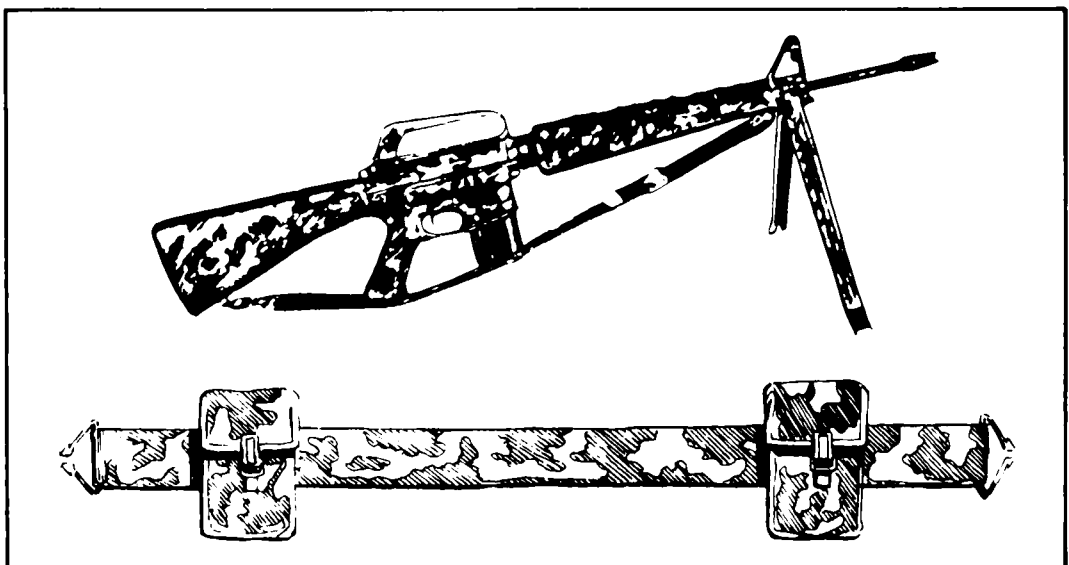

Figure 4.
4. Techniques for camouflaging LBE and weapon (fig. 4).